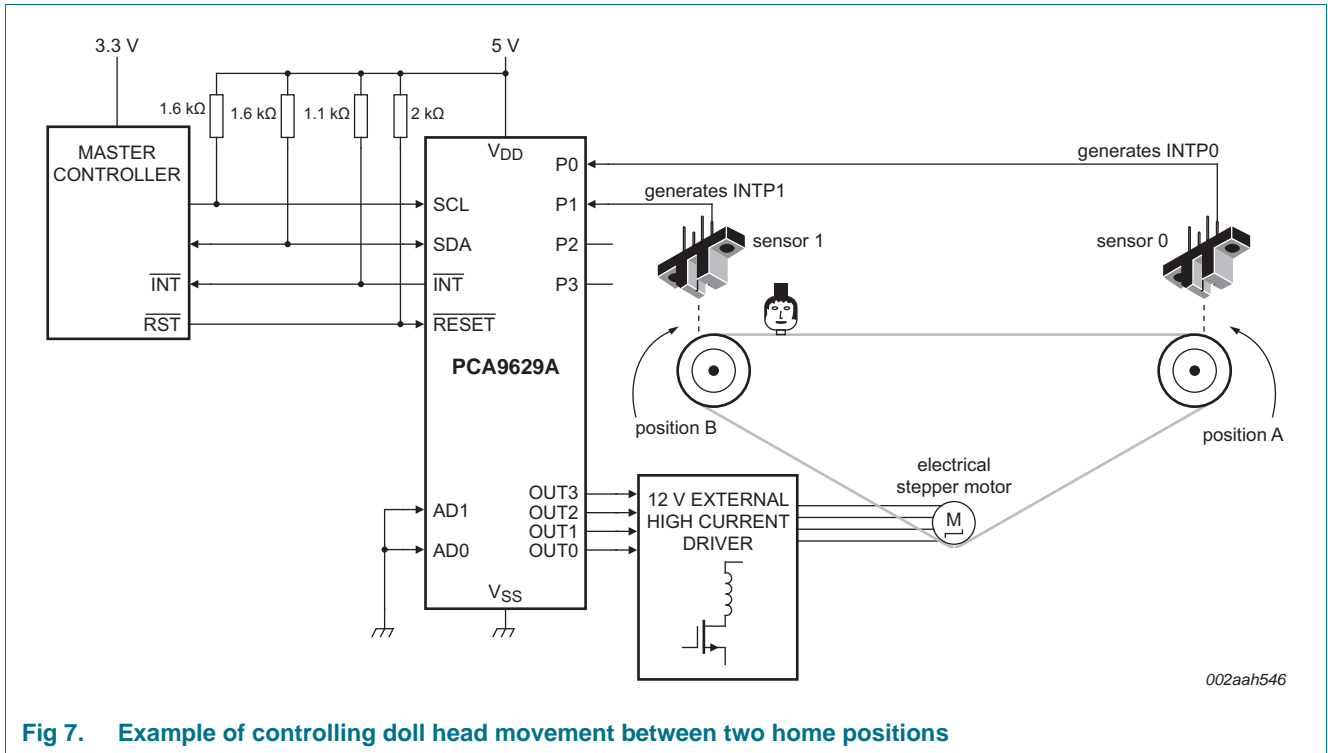

Fig 7. Example of controlling doll head movement between two home positions
**Example:** This example assumes that two position sensors are located spaced apart and a drive mechanism is needed to move an object back and forth between these two sensors. Figure 7 shows this application use case. Driving the stepper motor causes movement of the object toward one of the sensors. Logic level output of one sensor is connected to input pin P0 and the other to P1. P0 and P1 are configured as **inputs**.